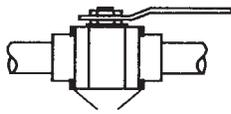
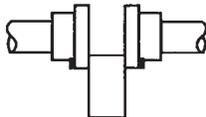

Figure 1A: Loosen two bolts
Figure 1C: Swing body section and service
To keep from destroying soft parts of the valve, loosen two bolts and remove six bolts as shown in Figures 1A, 1B, and 1C and swing out the body as for servicing. Take care that the end seals are not damaged. Note that, for the FIRE-GARD® valves with socket weld ends, extra end seals are included with the valve. Seals are to be replaced during the reassembly after welding. Prior to removing the bolts to allow the body to swing out, the valve may be tack welded in the line to facilitate line-up.
A. Turn ball (3) to open position and remove handle nut (9), handle (8), adjusting nut (7), travel stop (13), (part of the handle on sizes 1/4" - 3/4") and gland ring (6).
B. Loosen two bolts (14) (one per side in line with each other) and remove remaining six bolts (Figures 1A and 1B). The center body section of the valve will swing out (Figure 1C) for access to the ball (3), stem (4), seats (10) and body seals (11).